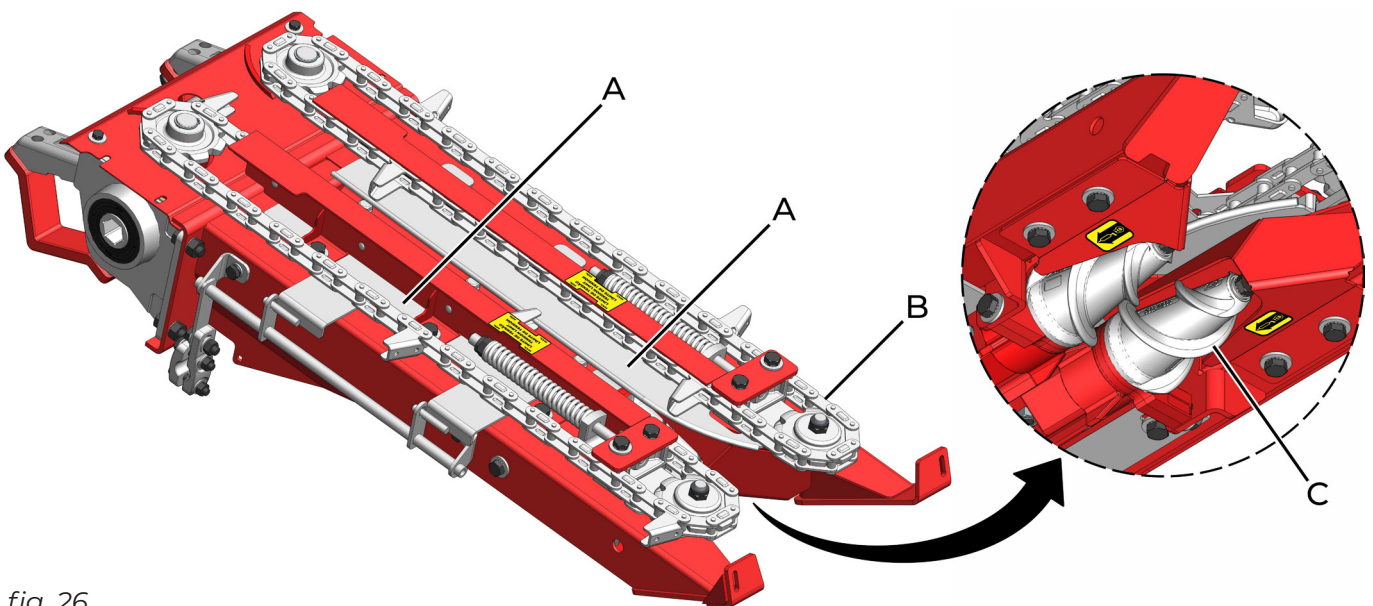

fig. 26
The threshing plates (A) (fig. 26) are positioned on the base of the gathering chains (B) and are in charge of detaching the corn cobs from the canes as they are pulled down by the pickup rollers (C).